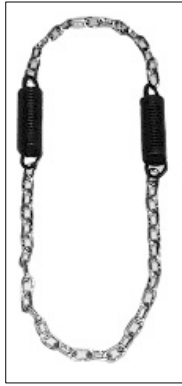

figure 5
CAUTION! **INSTALL CABLE CLAMPS AS SHOWN IN FIGURE 5;** otherwise; the cable could slip, possibly damaging the sweeper or injuring the operator.
1. Connect 2, 26-link chains and 2 springs to form a loop (figure 5).